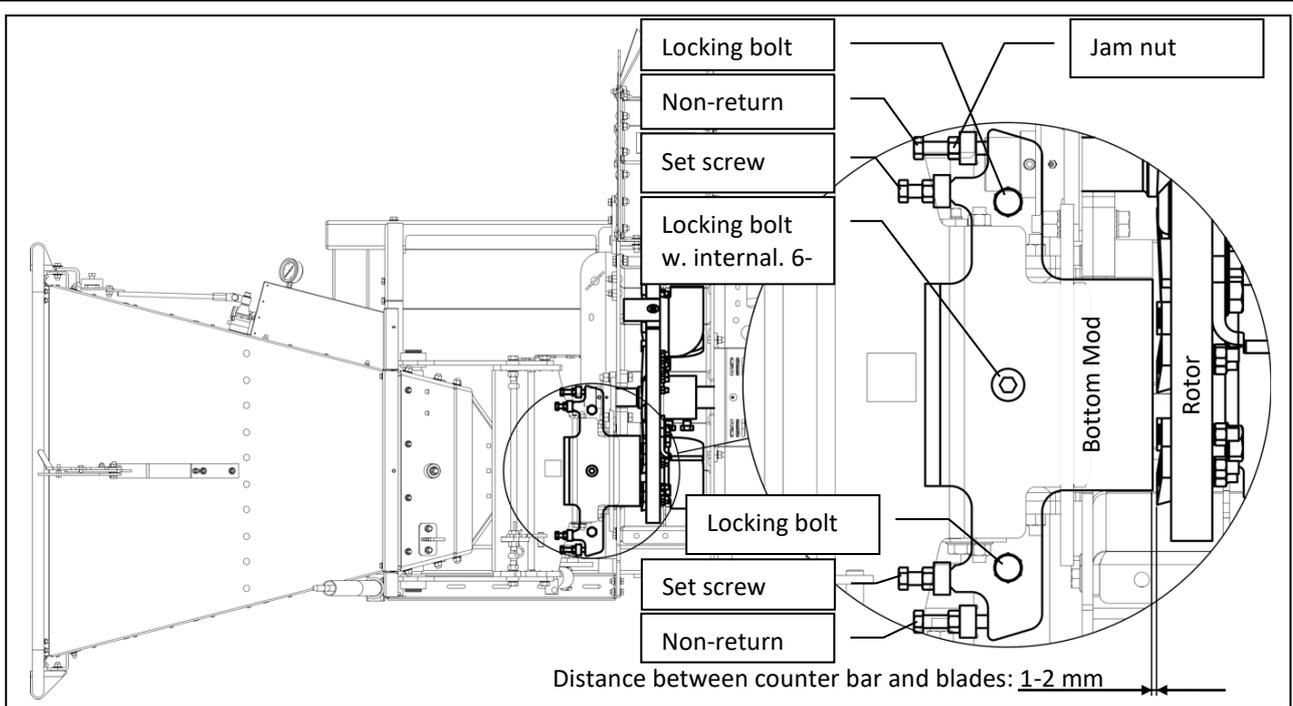

Figure 25
The bottom counter steel is easiest to adjust in the following way (see Figure 25):
3. The counter steel can be adjusted by screwing on the set and check screws respectively (see Figure 25). Read more about the nomination below.
When all The blades have passed the counter steel, it is recommended that you run another round with the rotor to ensure that the counter blades are completely free of the blades. If the setting is satisfactory, the 3 bolts that hold the counter steel to the boom during operation are torque-tightened. In addition, the set screws, check screws, and their jam nuts must also be tightened (see Figure 25), so the counter steel is completely locked in all directions.